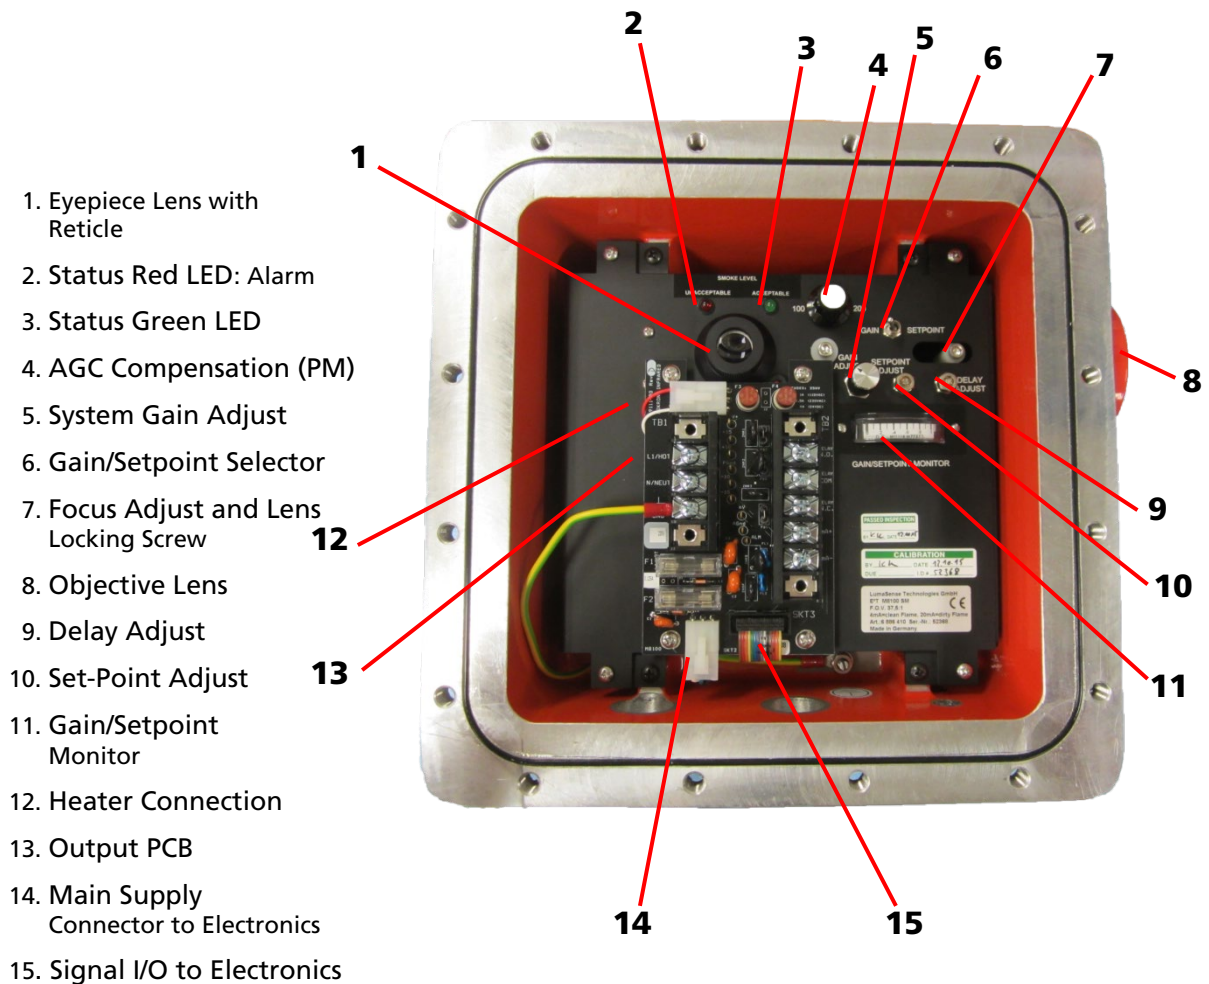

Figure 10: Opto-Electronics Module
Note: Refer to Figure 10: Instrument Aiming Concepts and Figure 11: Opto-Electronics Module for the following start-up procedure.
2. Aim the instrument at the target flame (See Figure 10).